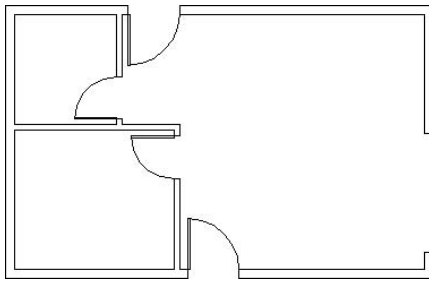

FIGURE 4.38: The four swinging doors in place
5. Click the Zoom Previous button to see the four swinging doors in place (see Figure 4.38).